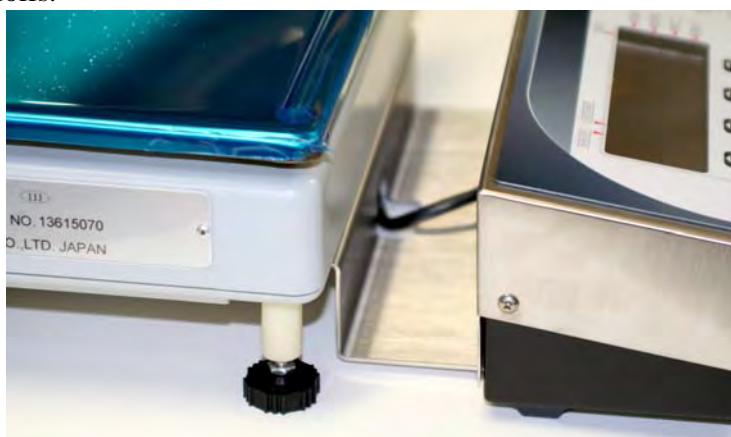

Figure 2-19. Indicator Attached to the Scale Base (DIGI S-YC Scale Base Shown)
4. Attach the indicator to the bracket using the second set of screws provided and screw white threaded standoffs into indicator base as in Figure 2-19 if using the S-YC scale base and then screw feet into the bottom of the standoffs.